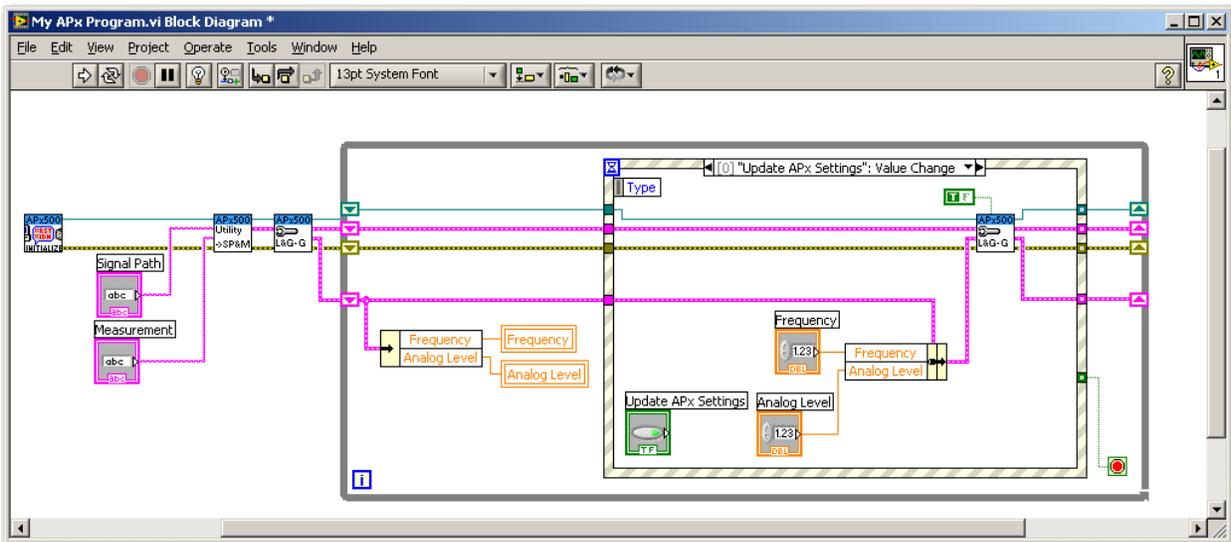

Figure 52
- Finally, rewire the block diagram as shown in Figure 52. Note the use of the Unbundle by Name function outside the Event Structure, and the use of the Bundle by Name function. These functions are used to get the values of only the Frequency and Level controls from the Signal Generator Settings (L&G) output cluster, and to pass them back in to the corresponding input cluster.